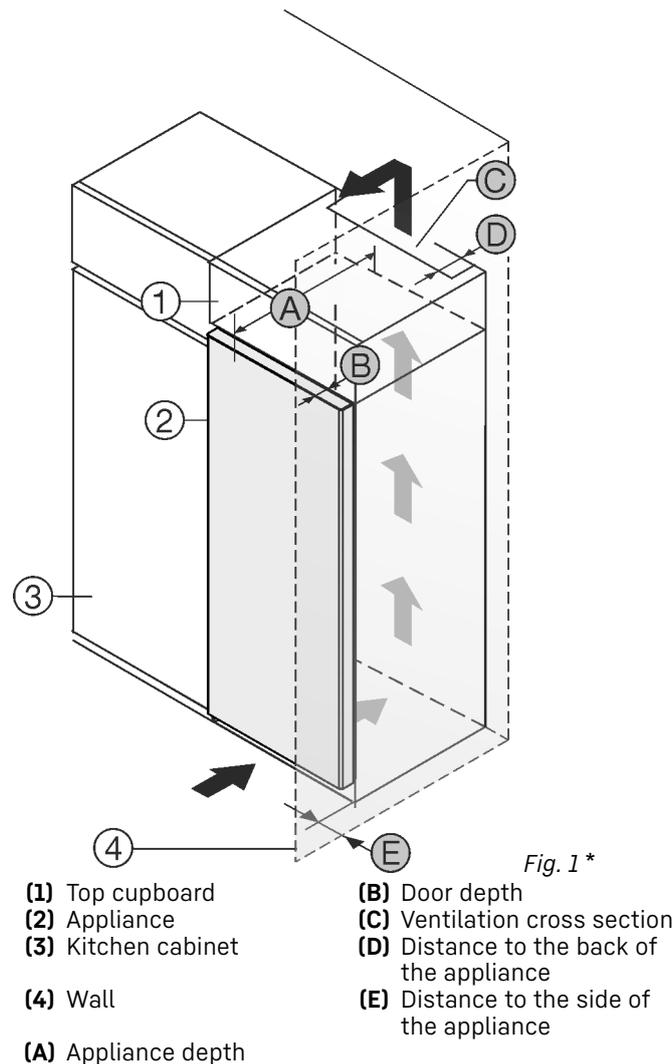

Fig. 1*
Set up the appliance directly next to the kitchen cabinet Fig. 1 (3)*.
There must be a ventilation shaft at the depth Fig. 1 (D) of the back of the top cupboard over the entire width of the top cupboard.*
The ventilation cross-section Fig. 1 (C) must be maintained under the ceiling.*
If the appliance is set up with the hinges next to a wall Fig. 1 (4), the distance between the appliance and the wall must be at least 13 mm.*
If the appliance is set up with the hinges next to a wall Fig. 1 (4), the distance between the appliance and the wall must be at least 20 mm.*
If the appliance is set up with the hinges next to a wall Fig. 1 (4), the distance between the appliance and the wall must be at least 57 mm. This is how far the handle protrudes when the door is open.*
In order to be able to fully open the door, the appliance must protrude by the depth of the door Fig. 1 (B) from the front of the kitchen cabinet. The appliance may protrude further depending on the depth of the kitchen cabinets Fig. 1 (3) and whether wall spacers are used.*